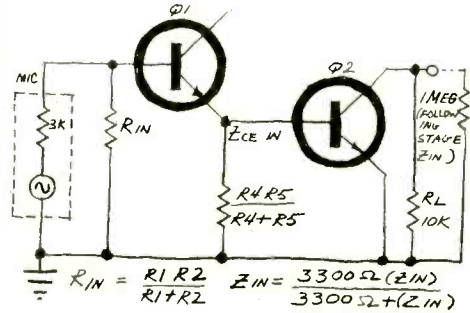

Fig. 7. Convert to equivalent ac design.
• 6. To calculate the ac values, redraw the circuit showing all bypassed resistors as shorts to ac and the input impedance of the following stage as resistors (Fig. 7). Note that  $R_1$  and  $R_2$  in parallel form  $R_{in}$ , which is in parallel with  $Z_{in}$  of the emitter follower to form the amplifier input impedance. Since the input impedance of the emitter follower is dependent on the input impedance of the common emitter, we must determine the latter from Fig. 4A. Since  $I_b = 0.36$  mA and beta is 50, the input impedance is 3600 ohms. The latter is in parallel with  $R_4$  and  $R_5$ , the bias resistors. The parallel value of  $R_4$  and  $R_5$  is approximately 8800 ohms, which, in parallel with 3600, comes to about 2560 ohms.